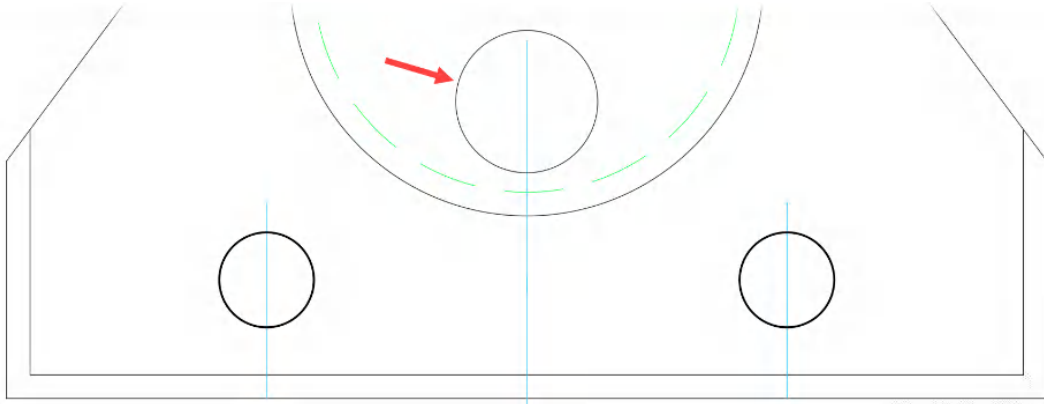

Figure 5.19: The new circle (arrowed) placed with the Geometric Center Osnap
13. Type 1.5 as the radius value and press *Enter*. You'll see your new circle appear, as shown in *Figure 5.19*: